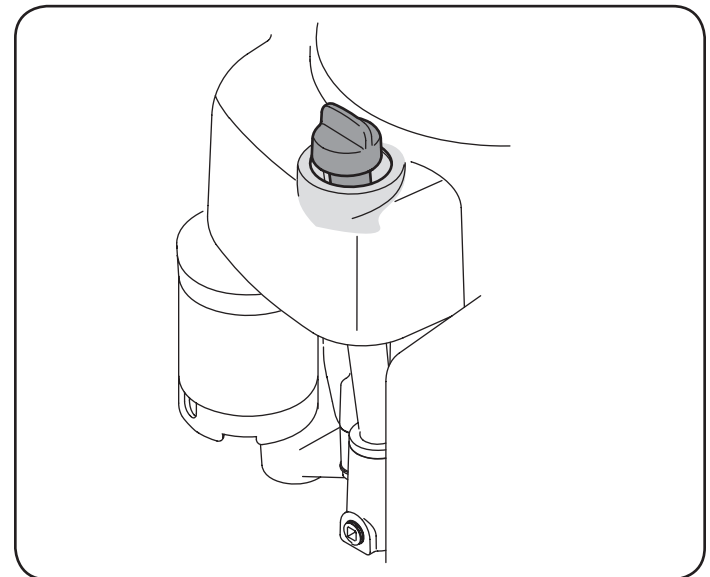

Figure 29
1. Wipe around dipstick cap and tube with a clean cloth to remove any debris. See Figure 29.